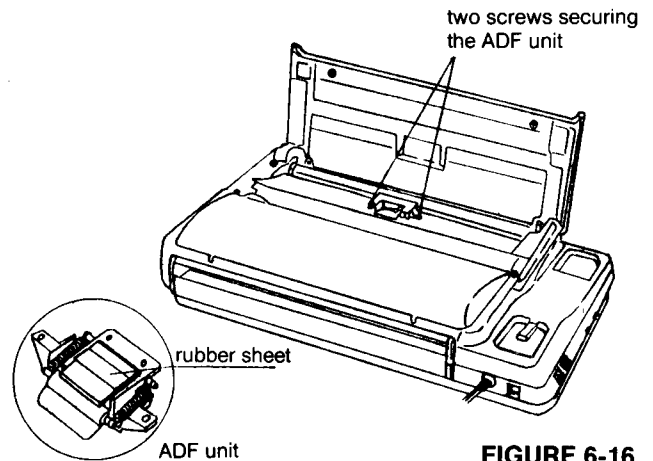

FIGURE 6-16
(4) Replacement of the ADF (Automatic Document Feeder) unit.
- Remove two screws securing the ADF unit. (See figure 6-16)